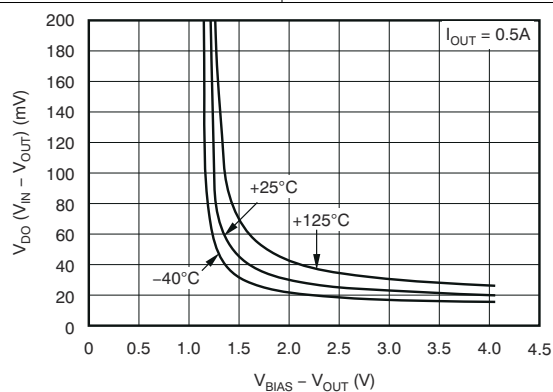

图 5-29. Dropout Voltage vs ( $V_{BIAS} - V_{OUT}$ ) and Temperature ( $T_J$ )
- (1) Adjustable devices tested at  $0.8\text{ V}$ ; resistor tolerance is not taken into account.
- (2) Dropout is defined as the voltage from  $V_{IN}$  to  $V_{OUT}$  when  $V_{OUT}$  is 3% below nominal.
- (3)  $1.62\text{ V}$  is a test condition of this device and can be adjusted by referring to Figure 5-29.